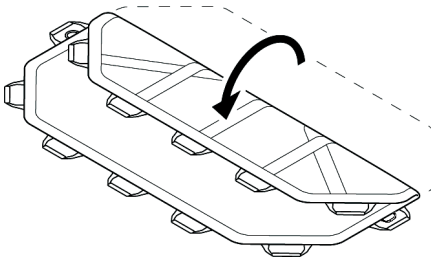

Figure 5
1. Fold each long side over toward the center of the Transfer Flat as shown in Figures 5 and 6.